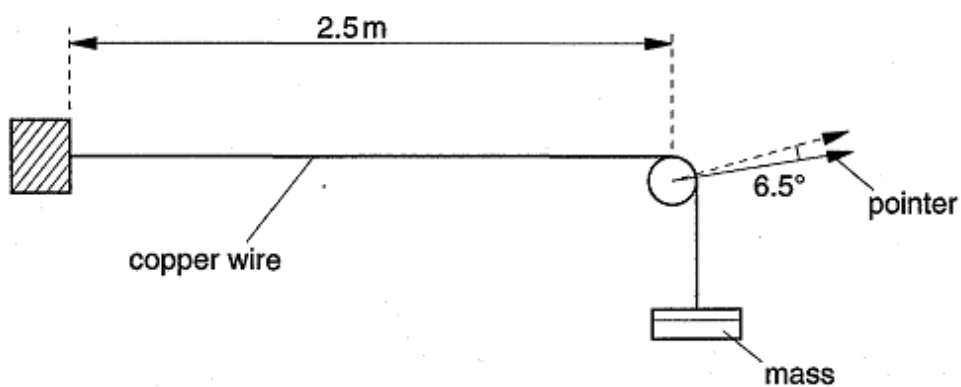

Fig. 3.2
- (b) A copper wire is fixed at one end and passes over a pulley. A mass hangs from the free end of the wire, as shown in Fig. 3.2.